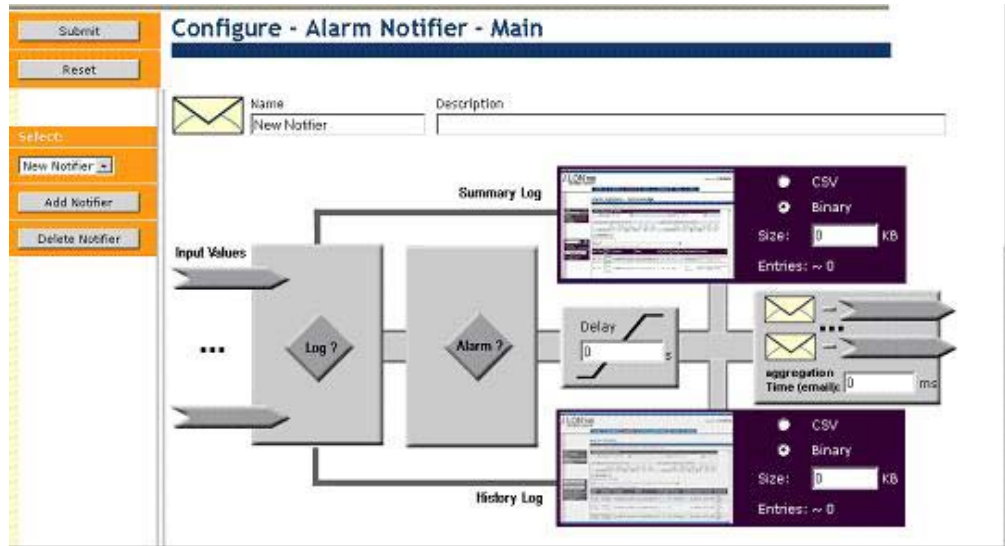

Figure 5.7 Configure – Alarm Notifier – Main Web Page
- Point your mouse cursor to **Configure**, and then select **Alarm Notifier** from the drop-down menu. The **Configure – Alarm Notifier – Main** Web page opens, as shown in Figure 5.7.